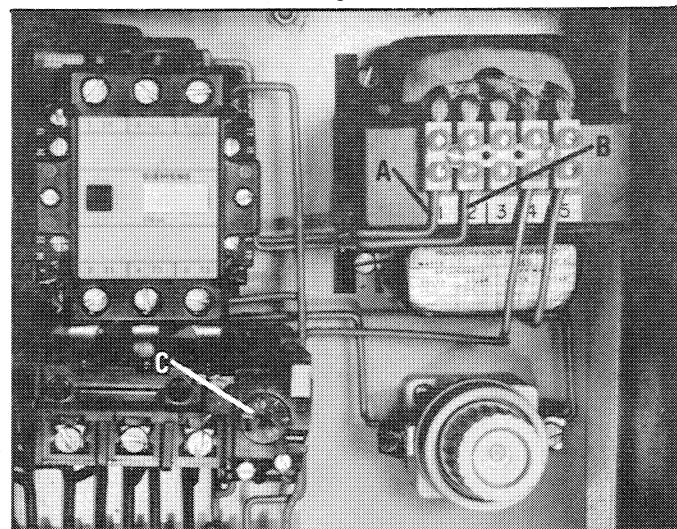

Fig. 6
3. For 230 Volt operation, the primary wires (A) and (B) Fig. 6, are connected to terminals 1 and 2 of the transformer. For 460 Volt operation, simply remove the primary wire (B) from the terminal 2 and connect it to terminal 3.
4. The amp setting dial (C) Fig. 6, is set at 15 AMPS for 230 Volt operation. For 460 Volt operation, the amp setting dial (C) should be set at 10 AMPS.